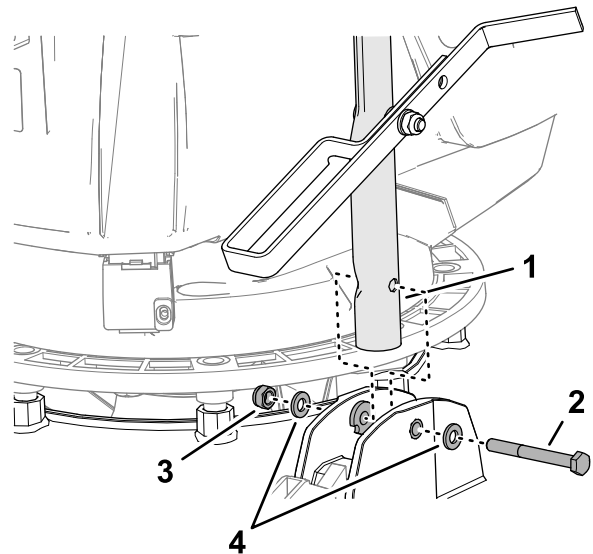

Figure 7
3. Align the hole in the handlebar with the holes in the bushings (Figure 7), and secure handlebar to the machine with a bolt (6 x 55 mm), 2 washers (6 mm), and a locknut (6 mm).